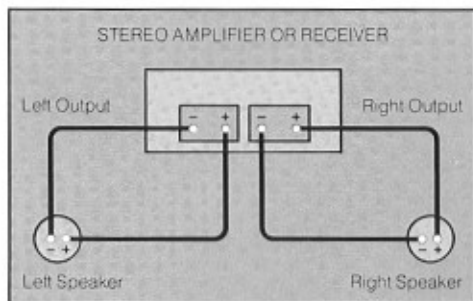

Figure 3. Connecting the speakers to the receiver/amplifier.
- E. **Make sure your receiver or amplifier is OFF and unplugged.** Connect the other end of the wire to the terminals marked LEFT on the back of the receiver/amp, making sure to connect the positive side of the wire to the receiver/amp positive terminal (marked + or colored red) and the negative side of the wire to the negative terminal (marked - or colored black). **Refer to Figure 3.** This assures that the speaker's positive terminal is connected to the receiver/amp's positive terminal, and the speaker's negative terminal is connected to the receiver/amp's negative terminal. Make sure all connections are secure.